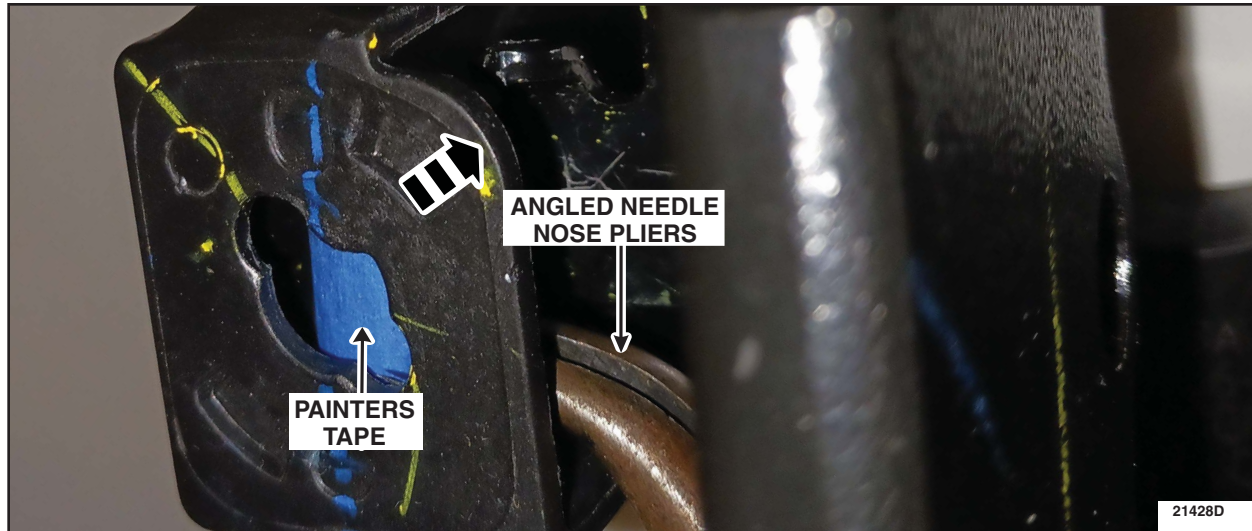

FIGURE 4
3. Apply a small piece of folded over painters tape to the **new** brake pedal bumper, and using angled needle nose pliers position the new brake pedal bumper for installation. See Figure 4.